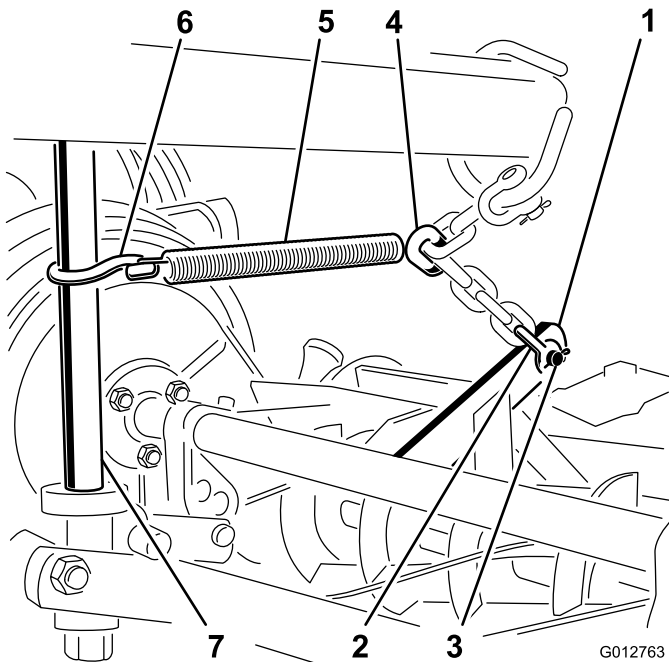

Figure 18
5. On remaining mowers, secure lift chains to mower mounting bracket with long shackles, clevis pins and cotter pins (Figure 18).
6. Hook spring to fifth link in chain from mower and secure other end of spring to lift bail with S-hook (Figure 18).